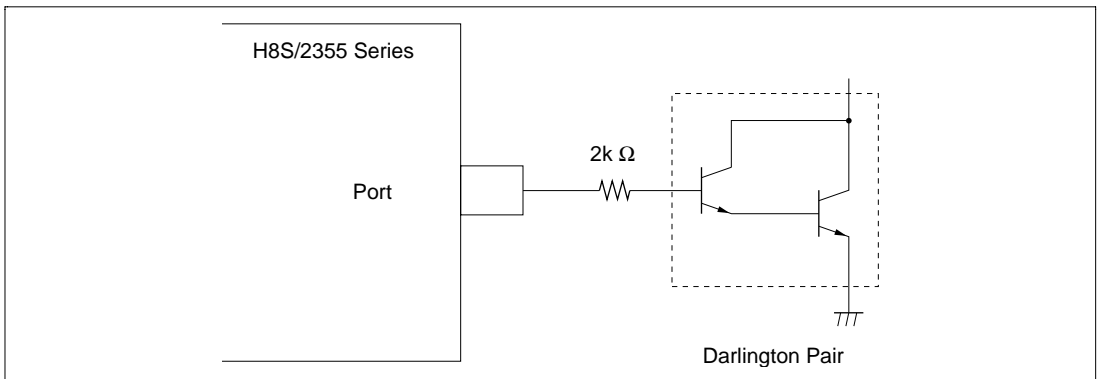

Figure 20-1 Darlington Pair Drive Circuit (Example)
2. When driving a darlington pair or LED directly, always insert a current-limiting resistor in the output line, as show in figures 20-1 and 20-2.